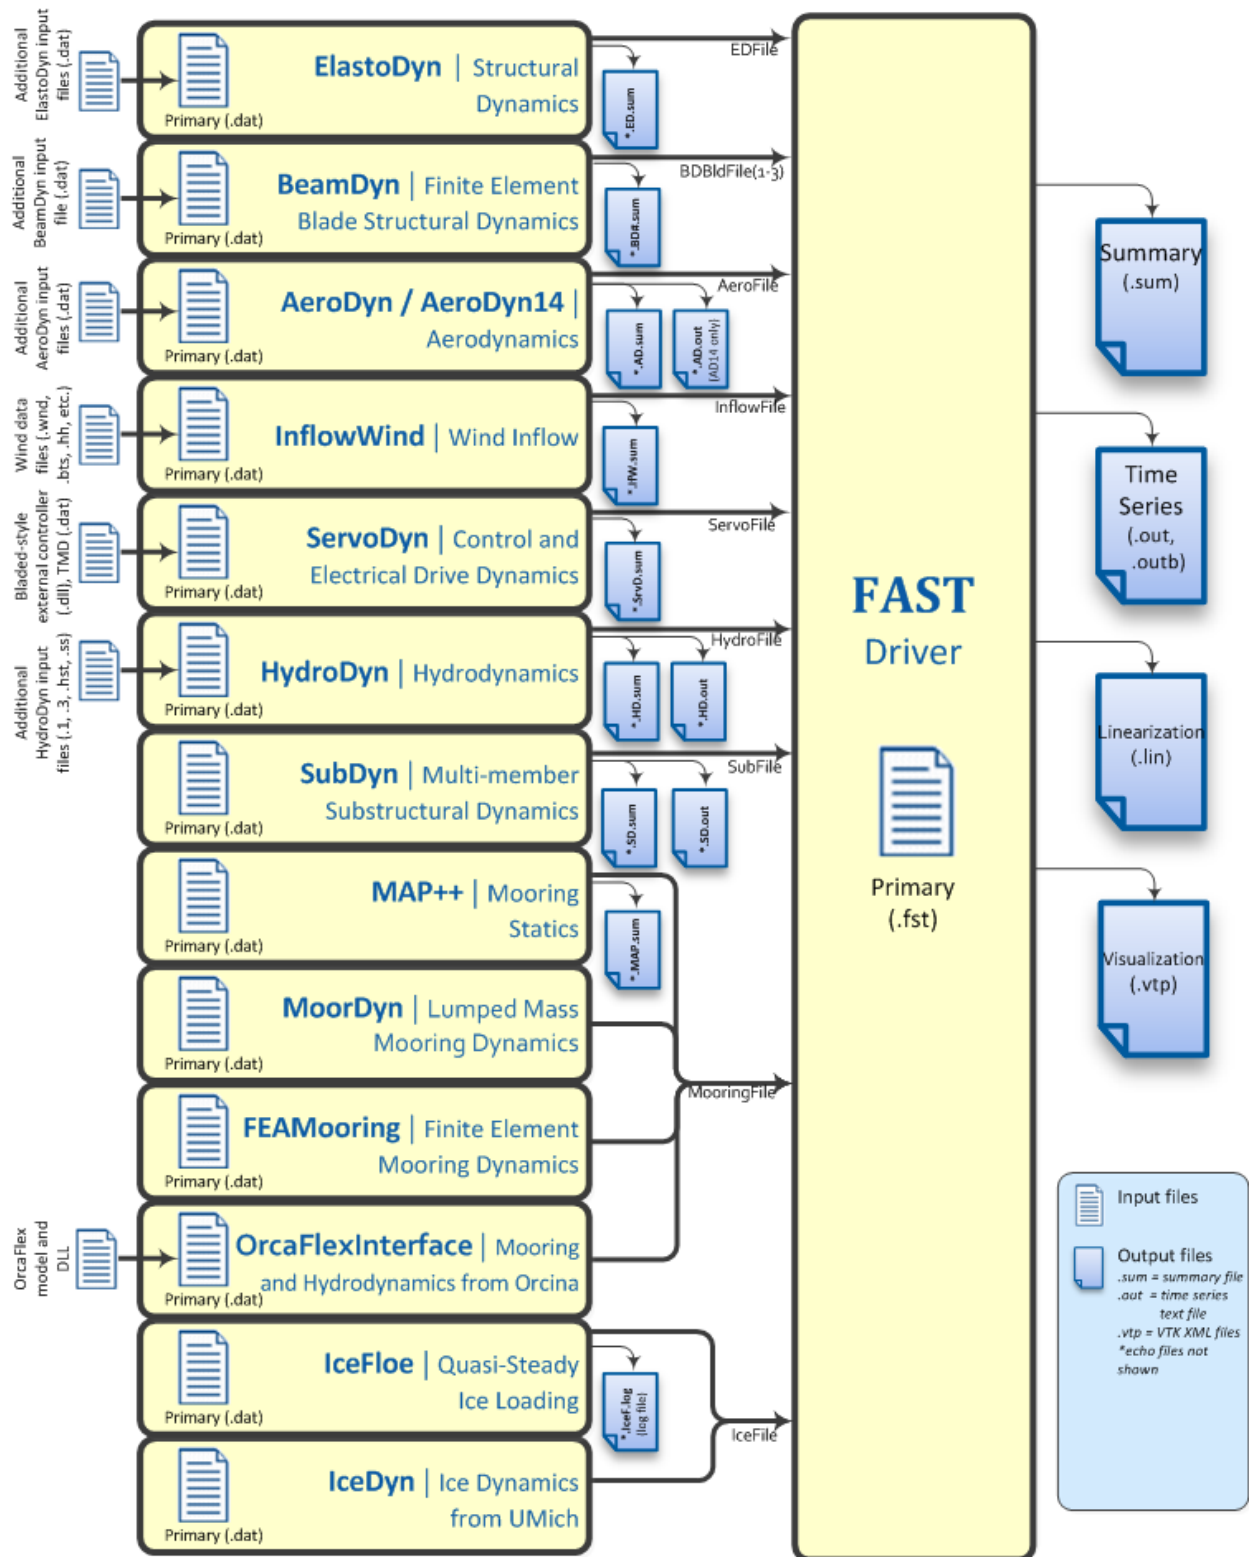

Figure 4: Summary of Input and Output Files for FAST v8.16.00a-bjj
- The names of output files generated by both FAST and its modules have been standardized, see Figure 4 and section “FAST v8 Input and Output Files.”
FAST and each of its modules have their own input files; see Figure 4.